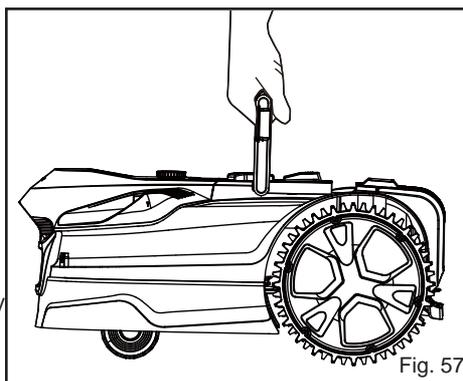

Fig. 57
- Use the carry handle to carry the mower. Carry the mower with the blade disc away from the body (Fig. 57).